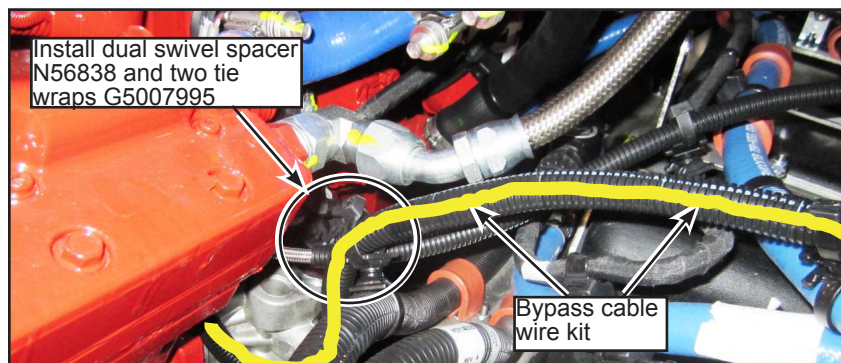

Figure 7 - Install the Dual Swivel Spacer with Two Tie Wraps
- 1.7. From the ECM connector, route the wire kit upwards and install the first N56836 dual swivel spacer with two G5007995 tie wraps (see Figure 7).